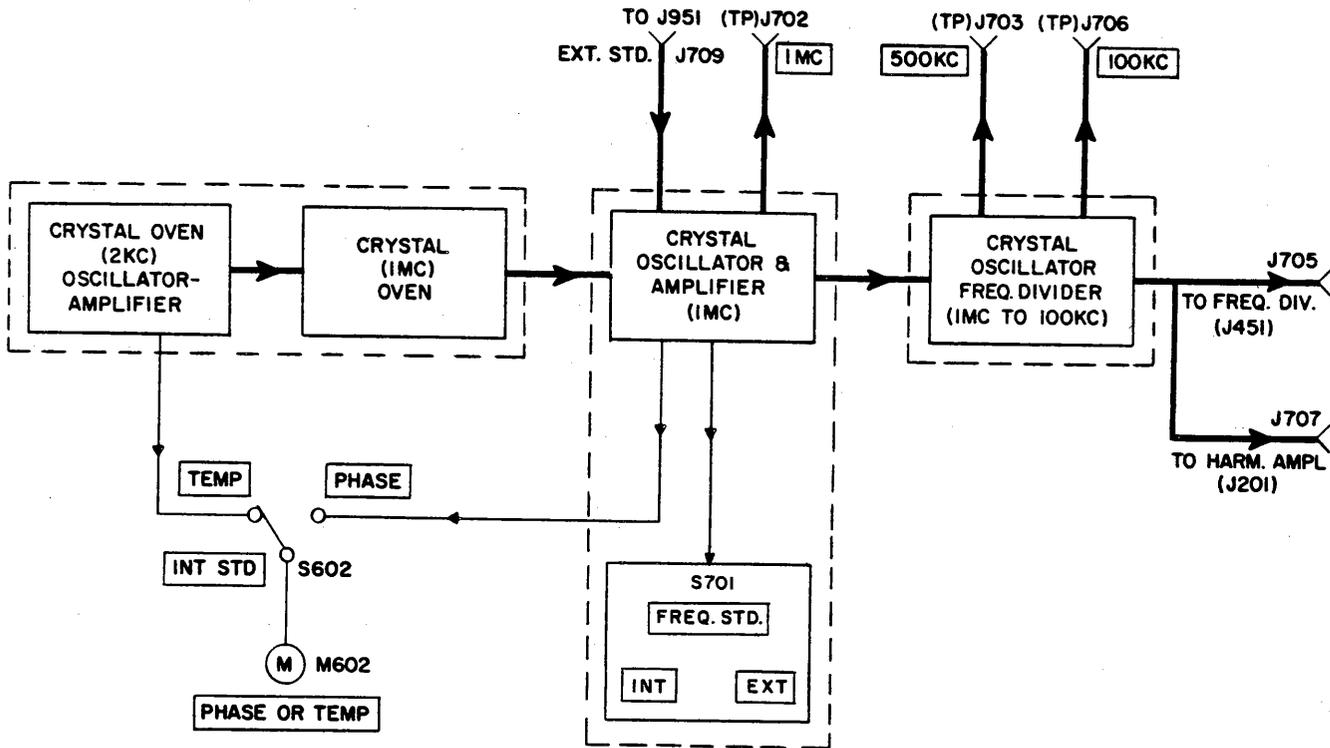

Figure 5-51. Crystal Oscillator, Functional Block Diagram
a. GENERAL.—The crystal oscillator subassembly (figure 5-51) contains three circuit sections—the crystal oven oscillator and amplifier (figure 5-52), the crystal oscillator and amplifier (figure 5-53), and the crystal oscillator frequency divider (figure 5-54). For a complete schematic diagram of the crystal oscillator subassembly, refer to figure 6-17.
Figs. 5-51 to 5-56